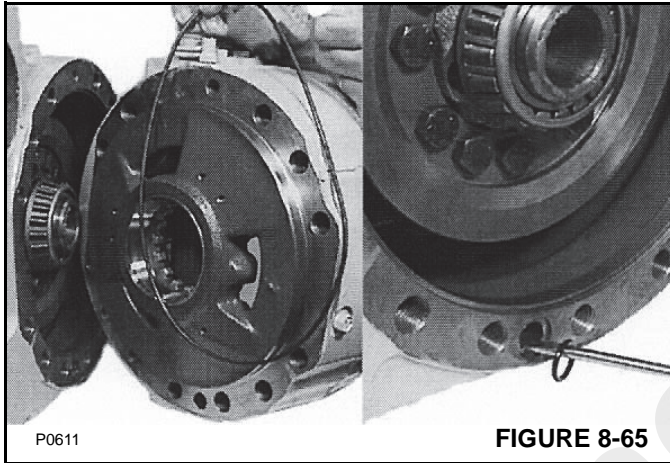

FIGURE 8-65
8. Remove the O-ring from the brake flange and the O-ring from the oil pipe hole (Figure 8-65). Check the O-rings for damage.